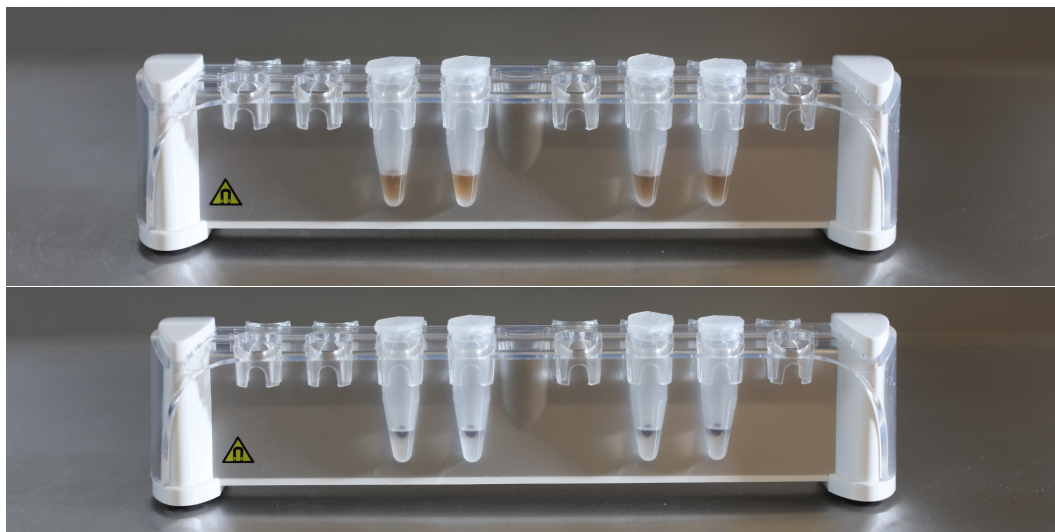

Figure 42. Tubes in DynaMag™-2 Magnetic stand before (upper) and after (lower) bead separation.
- After the incubation, place the BP Tubes 1–4 on the DynaMag™-2 Magnetic stand and leave them for 2 minutes to separate the beads from the solution (Figure 42).